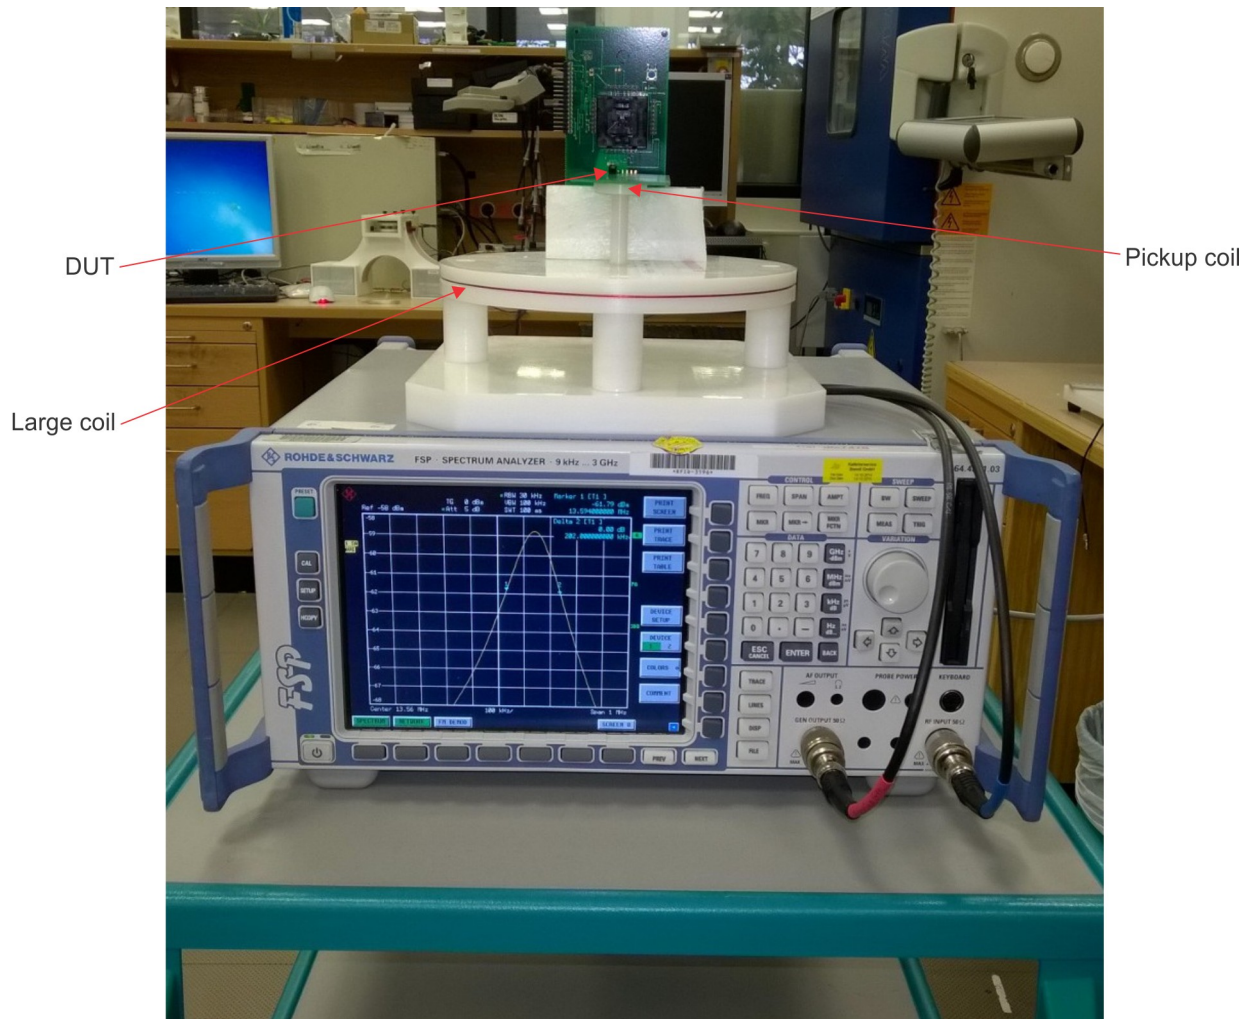

Figure 15. Resonant Frequency and Q Factor Measurement Setup
To calculate the Q Factor, the resonant frequency and bandwidth must be measured. That can be done using a spectrum analyzer with tracking generator (such as the R&S FSP) in combination with a special test fixture. The test fixture should consist of a pickup coil connected to the input of the spectrum analyzer and a larger coil connected to the output of the spectrum analyzers tracking generator as shown in Figure 15.
- Connect test fixture to analyzer. In Figure 15, connect the large coil (red connector) to output of tracking generator, and connect the small pickup coil (blue connector) to the input channel.